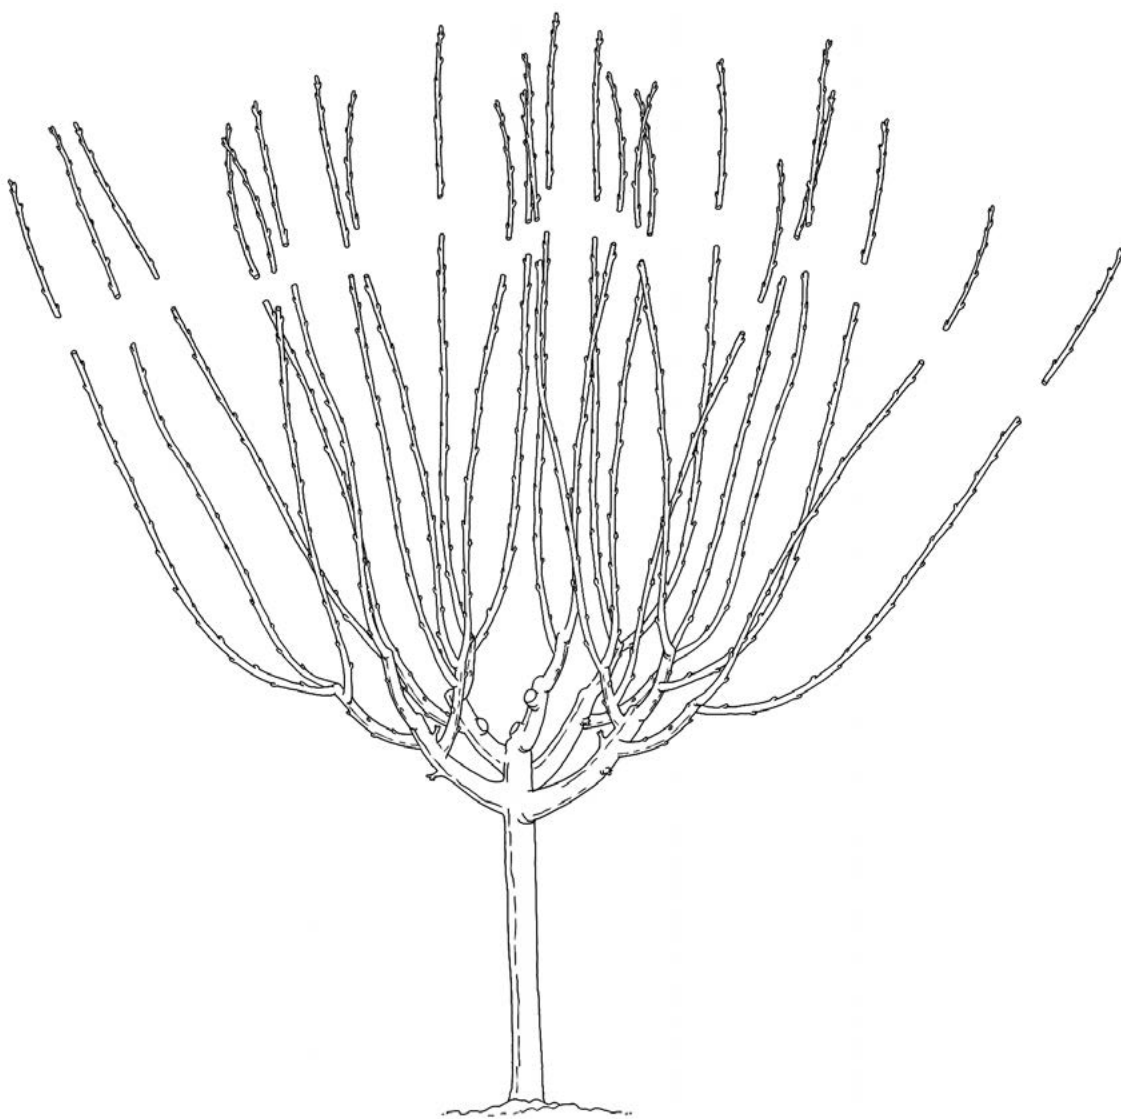

Figure 8
- Leaders on moderately or highly productive varieties of semi-vigorous rootstocks and highly productive varieties of full-sized rootstocks must be tipped. Remove a quarter of the new growth to balance the leaf-area-to-fruit ratio and produce high-quality fruit (Figure 8).
- If the tree is not yet 8 feet tall, remove a quarter of the new shoot growth from each leader (Figure 8, page 13).